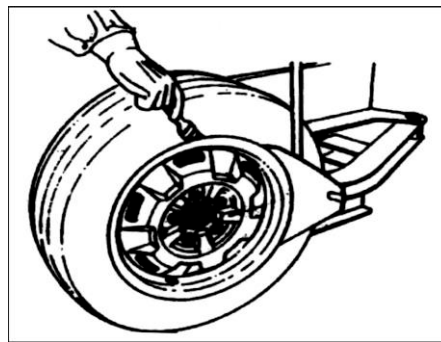

FIG 23
- Place the tire between the bead breaking blade and the tire pressing runner clog (**FIG23**). Then step down the tire press pedal (**FIG3-12**) to detach the rim from the tire. Repeat the same operation on the other parts of the tire to make the tire completely detached from the rim.